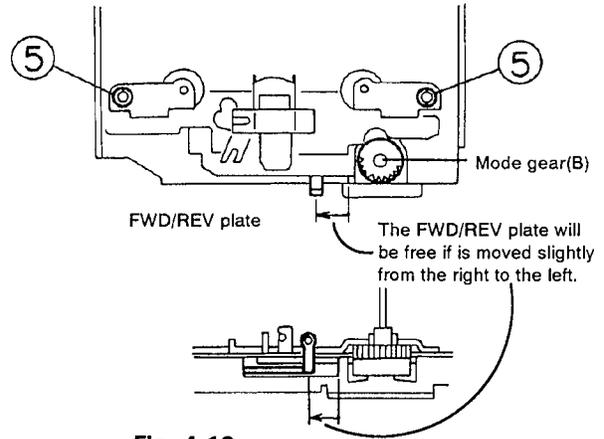

Fig. 4-10
■ **Pinch roller ass'y** (See Figs. 4-10 and 4-11)
1) Remove two C washers ⑤ securing the pinch roller ass'y (do this for both the FF and REV modes).